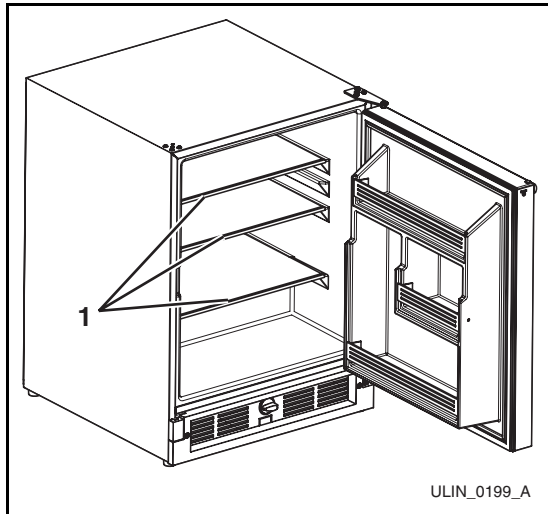

Figure 48
2. Grasp the shelf edge in the center (**Figure 48, 1**), and slide the shelf from the unit.